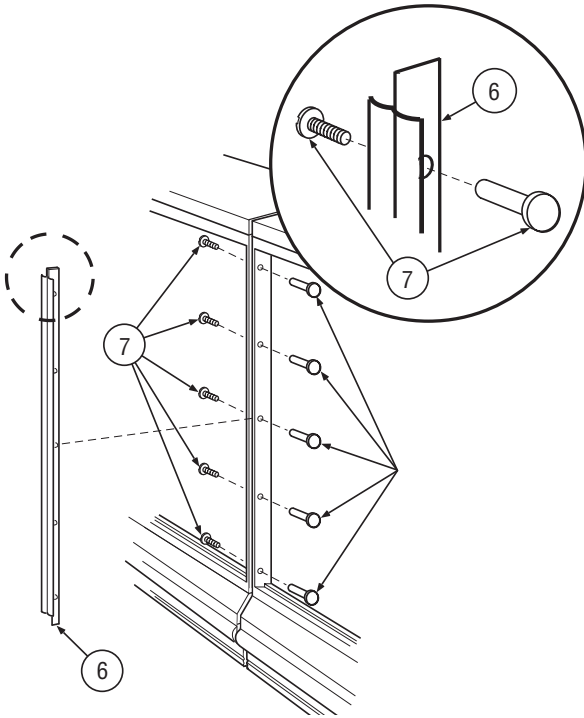

Figure 8. Installing "J" Molding
**9** Align holes in frame with holes in Joint Molding – 6. Fasten cases together using Binder Post and Screws – 7 as shown in Figure 8.